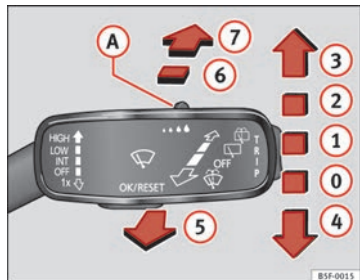

Fig. 64 Operating the windscreen wiper and rear wiper
- Press the windscreen wiper lever downwards briefly ⇒ Fig. 64 ④.